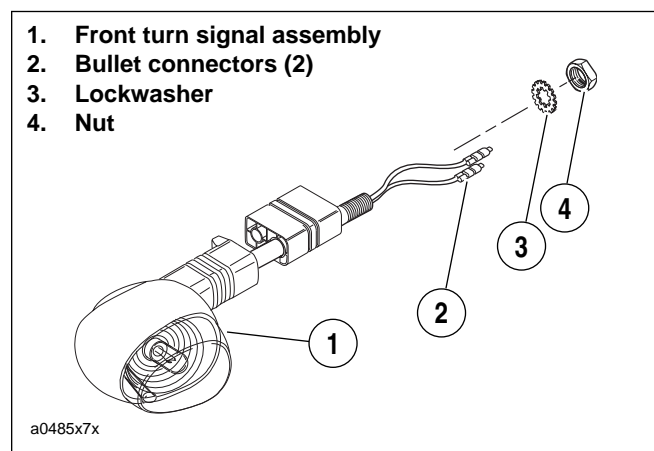

Figure 7-67. Front Turn Signals
3. See Figure 7-67. Remove nut and lockwasher
1. See Figure 7-67. Install turn signal with lockwasher and nut. Tighten nut to 25-28 **in-lbs** (2.8-3.2 Nm).